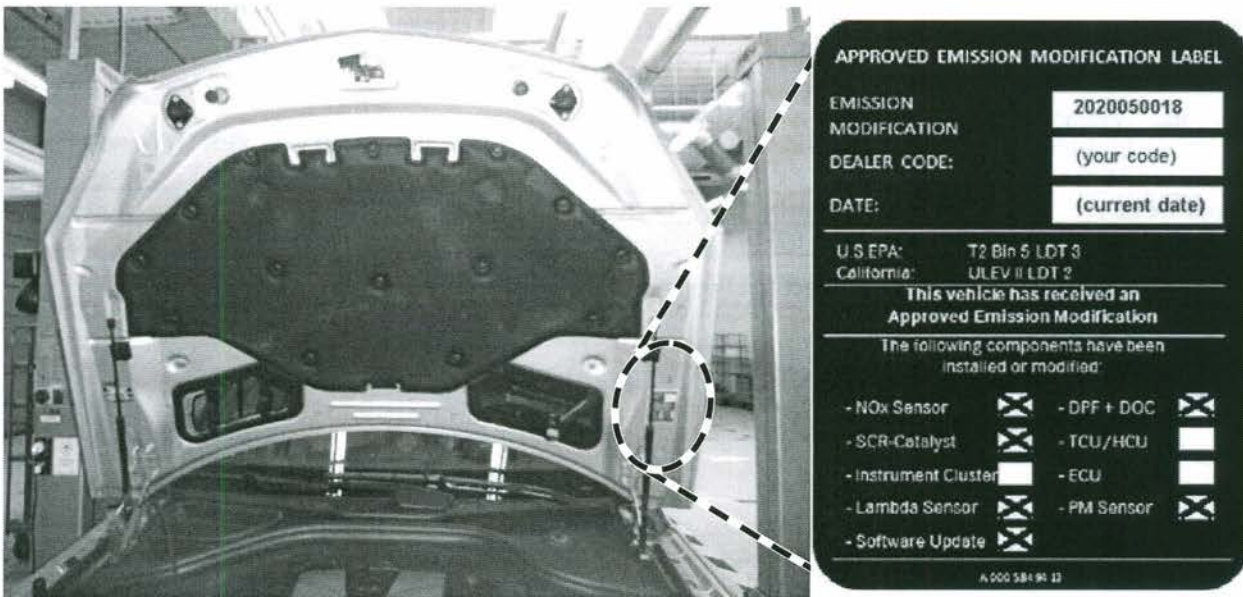

Figure 13
15. Clean the bonding surface of the hood and attach the AEM-label (**Figure 13**).